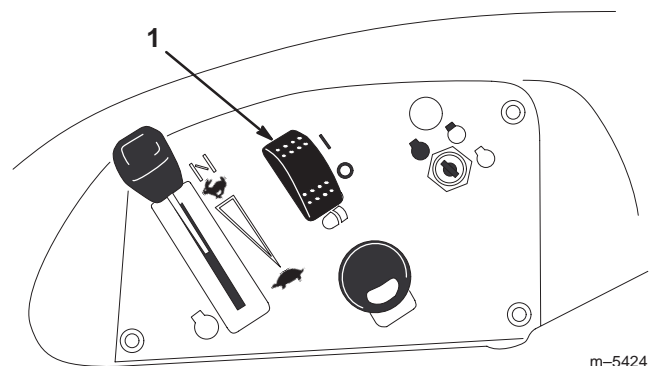

Figure 3
4. Slide the gasket around the bottom of the light switch and insert the switch into the hole in the control panel so that the rounded part of the switch is near the top of the panel (Fig. 3).